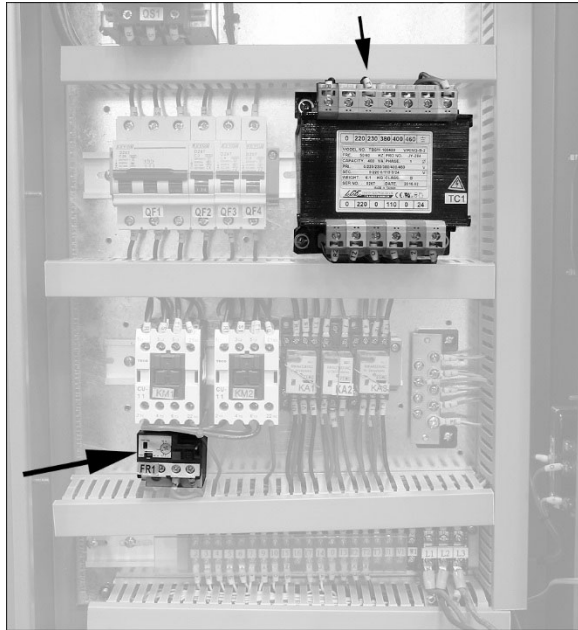

Figure 6-2
2. Change incoming lead on transformer from 230V to 460V terminal (Figure 6-2).
3. Adjust overload relay setting to appropriate amperage (Figure 6-2).